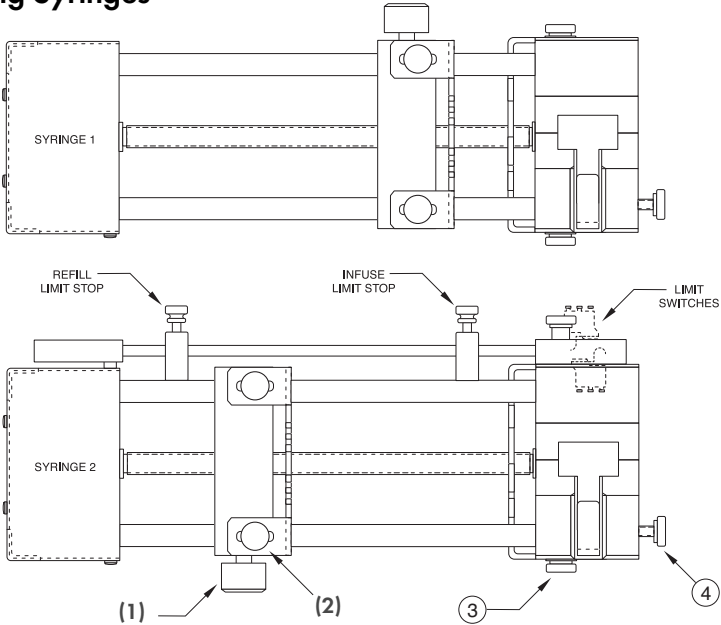

Figure 1. Syringe Loading
- 2) Loosen the screws on the syringe block and pusher block to free the retaining brackets (2 and 3, Figure 1)
- 3) To free the pusher block from the leadscrew, turn the knob on the front of the block (1) until the pin in the knob slips into the hole in the block.
- 4) The syringe clamp locking screw on the right side of the syringe block (4) should be loosened and the clamp rotated to the side.
- 7) Rotate the syringe clamp and press down firmly on the syringe barrel. Secure in place by tightening the locking screw (4).